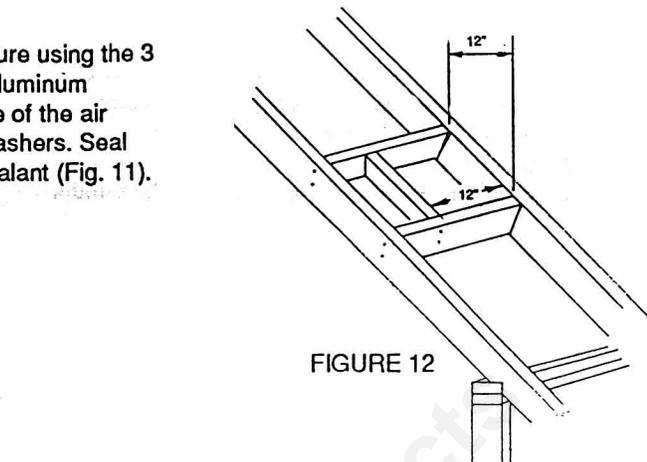

FIGURE 12
1. Having determined the air terminal location, cut or frame a hole in the roof with a minimum round or square opening of 12 inches being sure to maintain the required 1 inch clearance to combustibles (Fig.12).